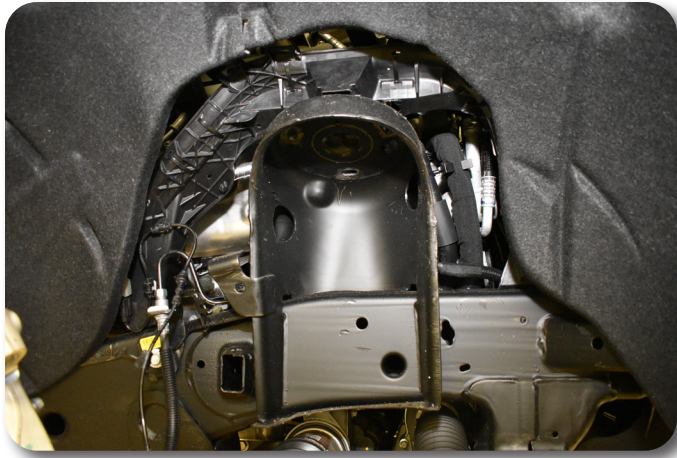

Figure 35
52. Remove the stock upper control arm from the vehicle by removing the two bolts attaching the upper control arm to the strut bucket / frame Fig. 35. Save hardware. If replacing the upper arm on a Denali truck, remove the sensor arm from the ball stud on the upper control arm.